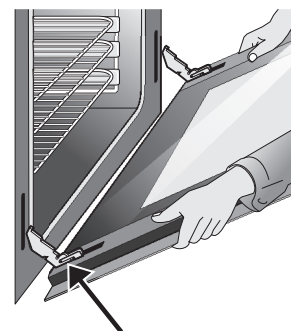

Figure 47: Hinge pin location
4. Keep pulling the bottom of the door toward you while rotating the top of the door toward the appliance to completely disengage the hinge levers (Figure 47).
2. Holding the oven door at the same angle as the removal position, seat the hook of the hinge arm over the roller pins located on each side of the oven door frame (Figure 47). The hook of the hinge arms must be fully seated onto the roller pins.